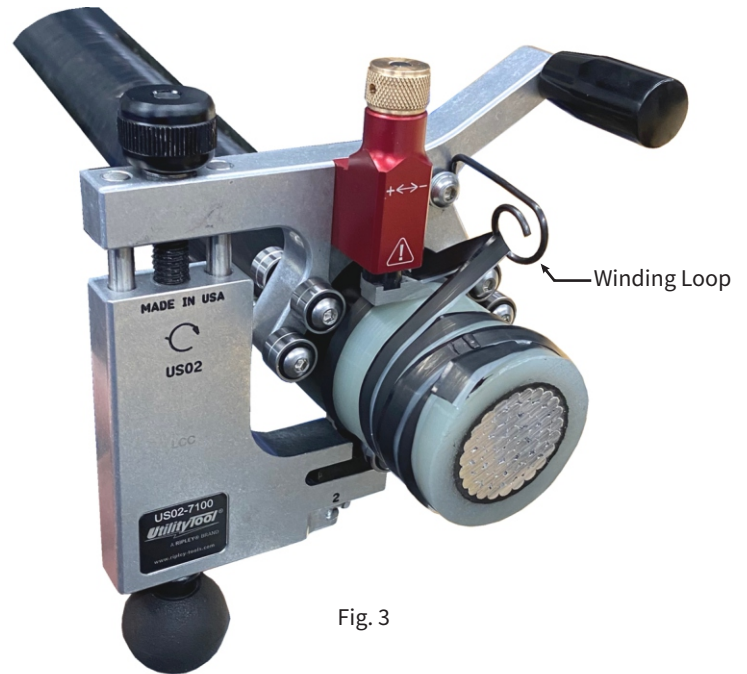

Fig. 3
7. Observe the shaved semi-con strip during operation. During the shaving process, do not allow the strip to get caught under the cable rollers. This will disturb the shaving result. A convenient technique is to loop the shaved semi-con strip through the winding loop on the tool and tie it off at the end of the cable. Note the direction and placement in Fig.3